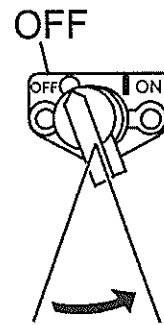

Figure 18. Engine ON/OFF Switch (OFF)
2. After the engine **cools**, turn the engine ON/OFF switch to the "**OFF**" position (Figure 18).